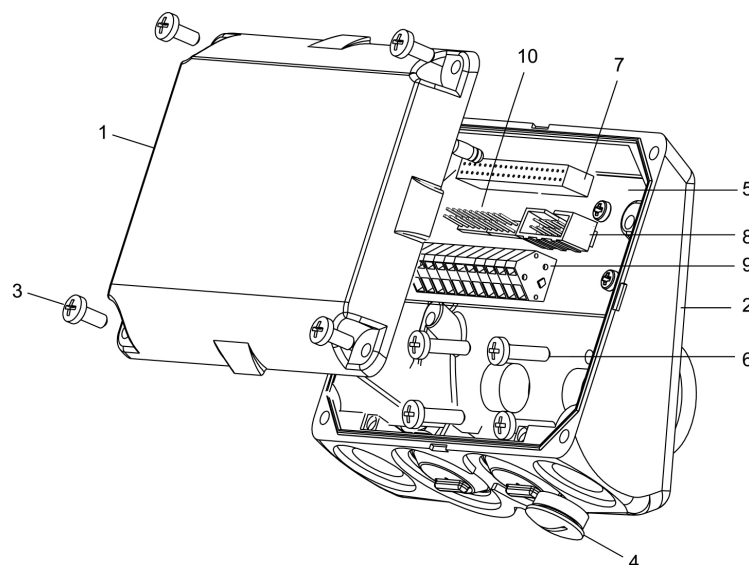
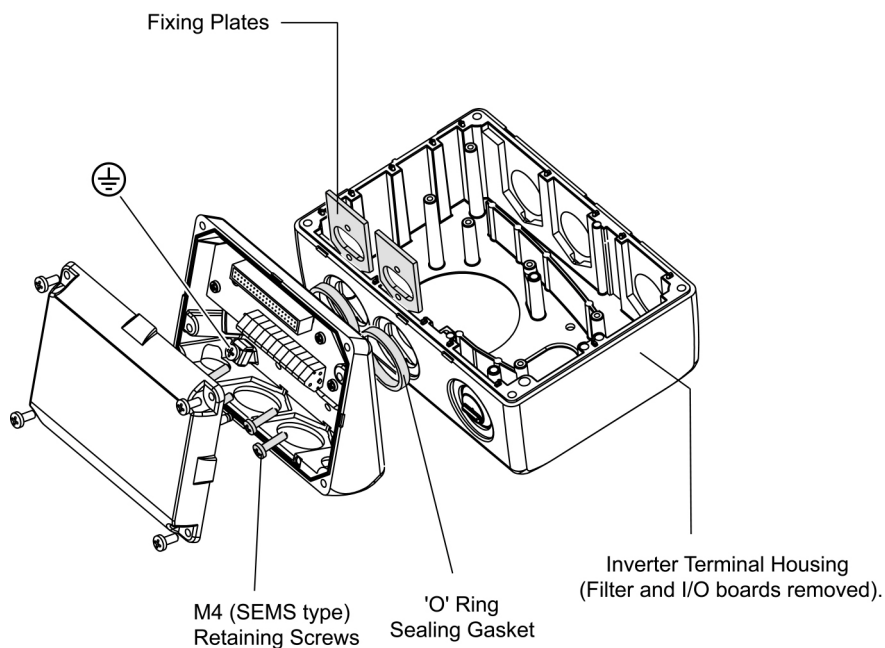
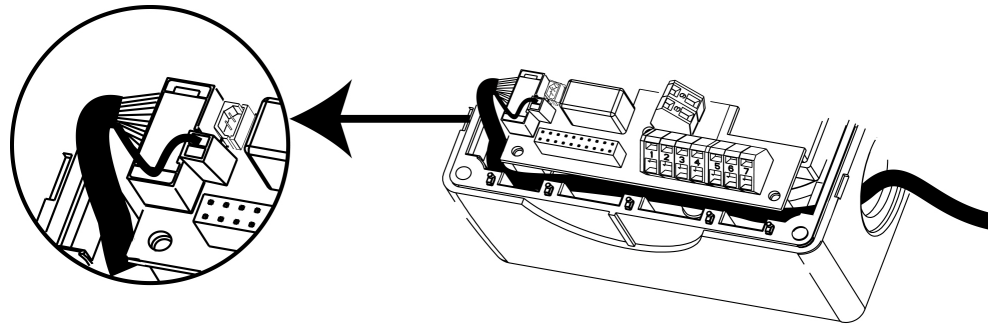

Figure 4-5 PROFIBUS Module Layout
Figure 4-6 PROFIBUS Module Fixing to Inverter
Figure 4-7 Fitting the Communications Cable
1. Unscrew the four cover retaining screws (3) (see Figure 4-5).
2. Carefully detach the module cover from the base (2).
3. Insert the 'O' ring sealing gaskets (see Figure 4-6).
4. Align the Options case with the Fixing plates (See Figure 4-6).
5. Fasten the Options module base to the fixing plates using the retaining screws (6) (see Figure 4-5).
6. Feed the supplied comms link cable between the PROFIBUS comms socket (8) (see Figure 4-5) and the corresponding comms socket on the inverter I/O board (see Figure 4-7).
7. Terminate the comms link cable screening lead on the Inverter I/O board (see Figure 4-7).
10. Using the U-clamp and screw, connect the earth lead (attached to the fixing plate) to the earth stud (shown as  $\oplus$  in Figure 4-6) within the module housing.
18. Align the corresponding sub-assemblies so that the opposing sections of the in-line pcb connector (7) mate (see Figure 4-5).
19. Apply a gentle pressure until the lid (1) is firmly closed.
20. Secure the lid via retaining screws (3) at each corner.
The cable screening lead on the cable should be connected to the I/O board (see Figure 4-7).